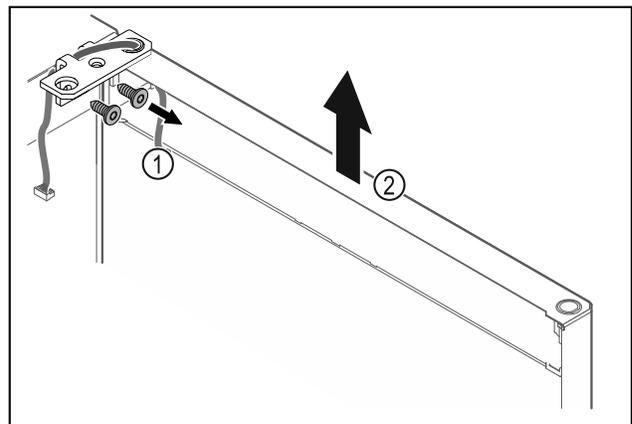

Fig. 23
- ▶ Unscrew the hinge Fig. 23 (1).
- ▶ Lift the door with the hinge straight up by Fig. 23 (2) roughly 200 mm (7.87 in) and take it off.